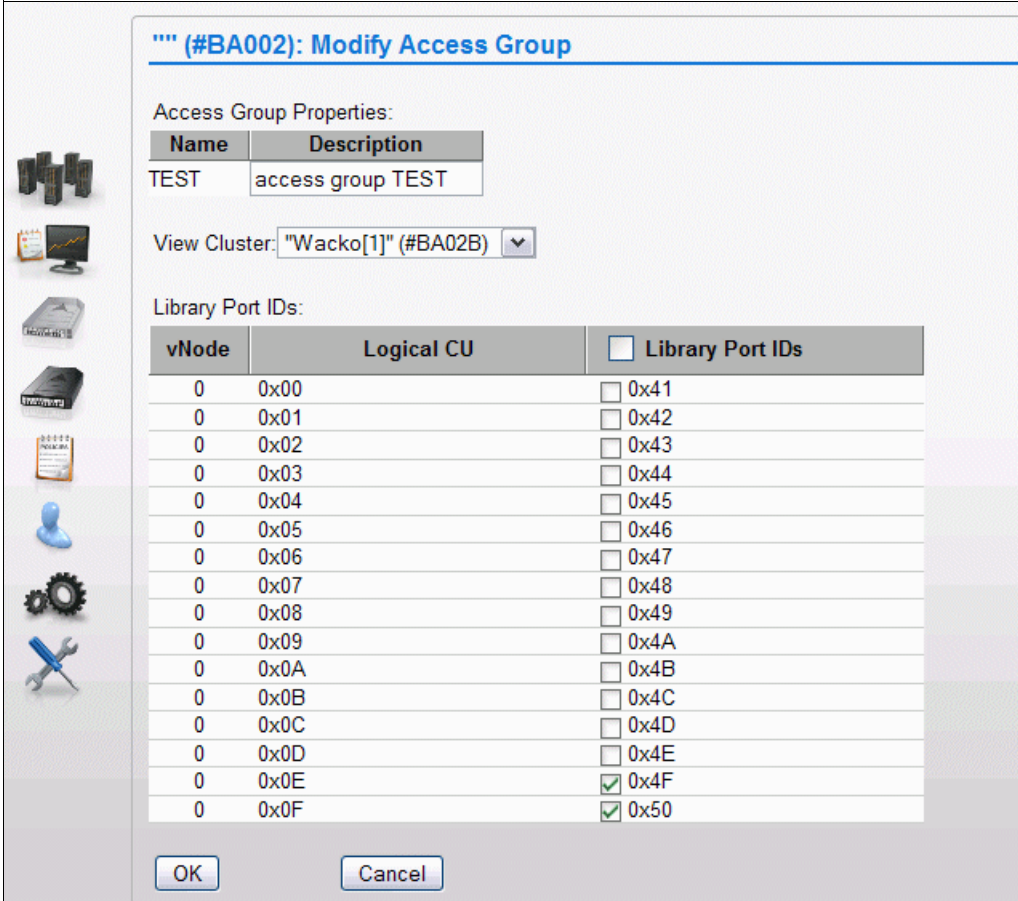

Figure I-11 Modify an access group for TEST LPAR
- Use the menu to select Cluster 1 to add Lib Ports 4F and 50 to the TEST access group as shown in Figure I-11.